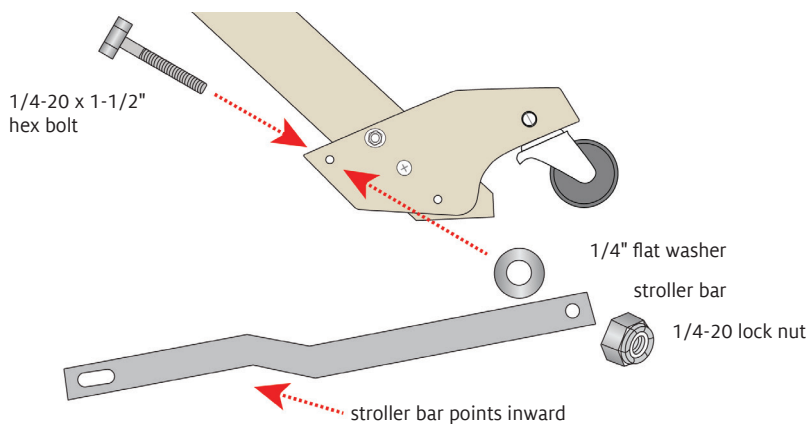

FIGURE 12: ATTACH STROLLER BAR
13. The empty hole of the stroller block (closest to the front of the loom) attaches the stroller bar. From the inner side of the block, insert a 1/4-20 x 1-1/2" hex bolt. On the outer side of the block, add a 1/4" flat washer to the bolt shaft (Figure 12).
14. Orient a stroller bar with its round hole at the back of the loom and its bend pointing inward. Place the round hole over the hex bolt shaft, then add a 1/4-20 lock nut (Figure 12). Tighten the lock nut securely, then loosen it by a quarter turn, so the stroller bar can pivot.
28. The empty hole of the stroller block (closest to the front of the loom) attaches the stroller bar. From the inner side of the block, insert a 1/4-20 x 1-1/2" hex bolt. On the outer side of the block, add a 1/4" flat washer to the bolt shaft (Figure 12).
29. Orient a stroller bar with its round hole at the back of the loom and its bend pointing inward. Place the round hole over the hex bolt shaft, then add a 1/4-20 lock nut (Figure 12). Tighten the lock nut securely, then loosen it by a quarter turn, so the stroller bar can pivot.